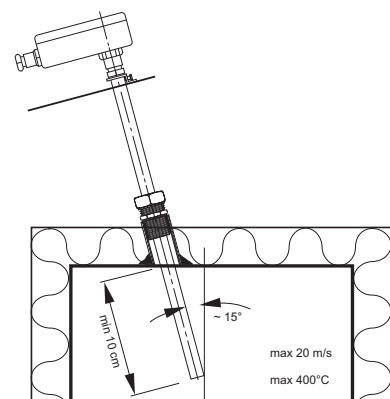

Figure 6
1. Fit a 3/4" union on the flue duct after the boiler. Make sure the union extends outside of the insulation to facilitate installation of the probe. It should be installed at a 15° angle to the horizontal plane, so that the tip of the probe points slightly downward (see figure 4 ), alt. top mounted (see figure 6). This is to protect the probe from condensation water.